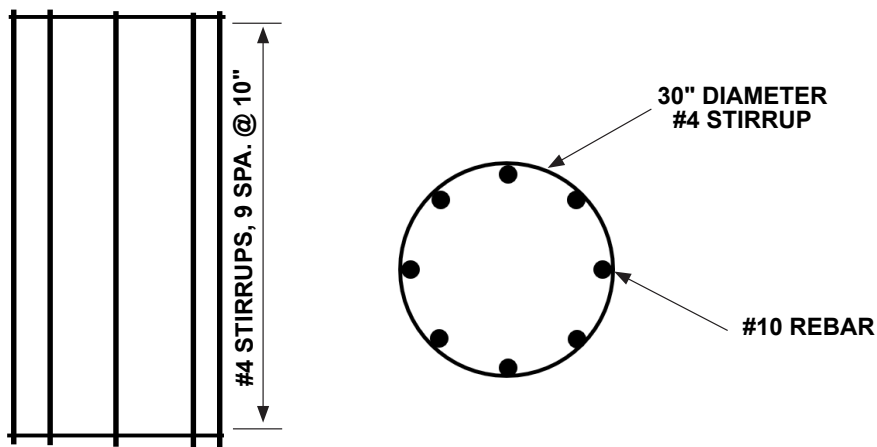

Figure 4
2. In the hole, place MSC reinforced with a 30" [762 mm] diameter rebar cage. See Figure 4 for the rebar cage. The rebar cage consists of eight (8) #10 Grade 60 reinforcing bars and 30" [750 mm] diameter stirrups spaced at 10" [250 mm] on center. The connections can be tack welded or tie wired, as desired by the assembler/installer or specifying agency. The rebar cage is placed with a minimum of 3" [75 mm] clearance on all sides. If the specifying agency requires a deeper footing, the length on the rebar cage will be increased by the amount for the extra depth of the footing.